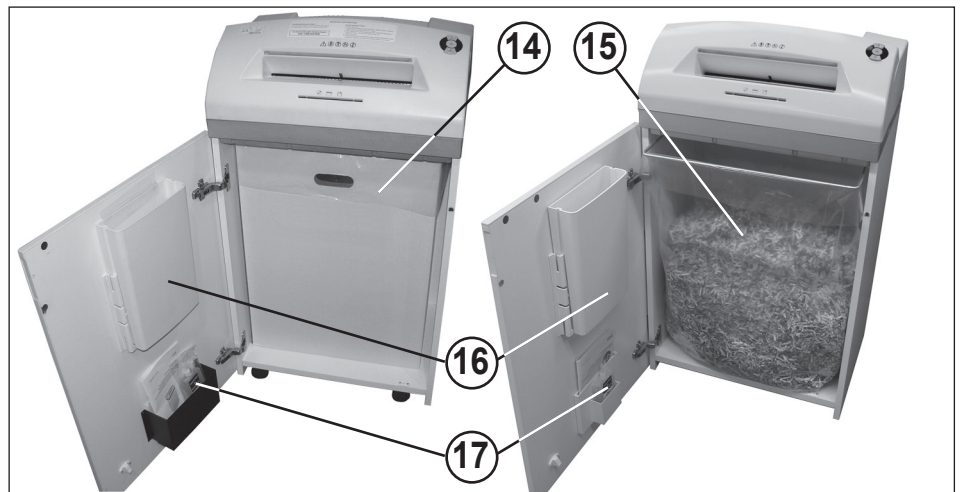

Fig. 4
14 = Paper collection container (Fig. 4)
15 = Paper collection bag (Fig. 4)
16 = CD/DVD collection container (Fig. 4)
17 = Oil reservoir (Fig. 4)
EMPTYING THE PAPER COLLECTION CONTAINER / BAG (Fig. 4):
EMPTYING THE CD/DVD COLLECTION CONTAINER (Fig. 4):
Open the door. The control display (8) comes on and the reverse button (4) LED display as well as the control display (7) **flashes**. Remove the oil reservoir (17) (Fig. 4) from the holder in the door and close the door again.